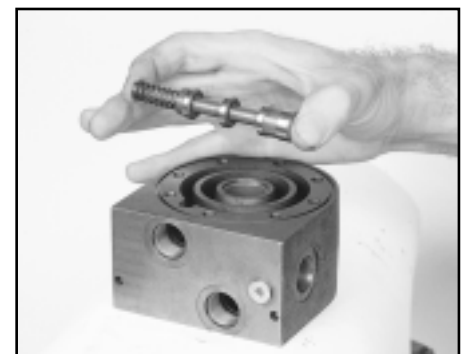

Figure D19
- B) the "double" or "wide" land opposite the "pilot port" for **normally series** operation. SEE FIGURE D19.